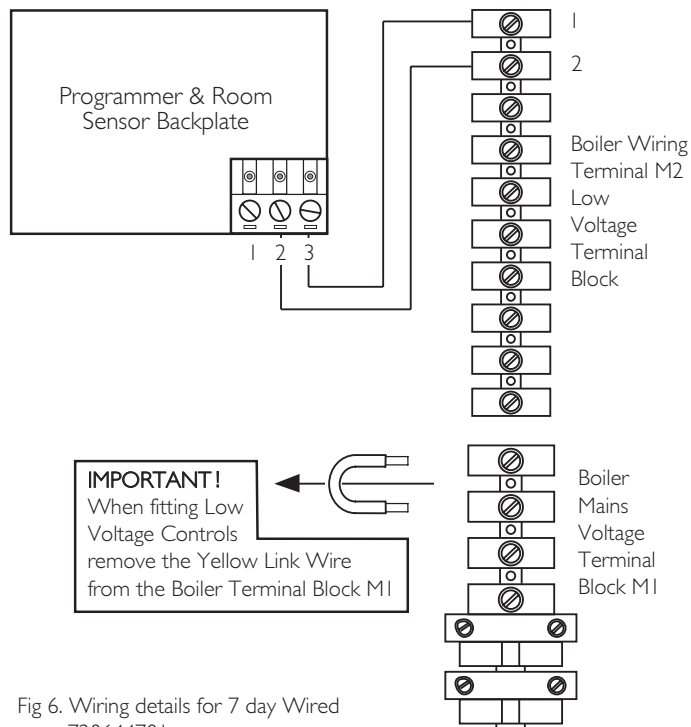

Fig. 6. Wiring details for 7 day Wired 720644701
NOTE: The yellow link wire across terminals 1 & 2 on the Boiler terminal block 'M1' must be removed when fitting this Low Voltage control system. Fig. 6.
4. Pass the wires through the access slots in the backplate and wire the terminals as shown in Fig. 6.